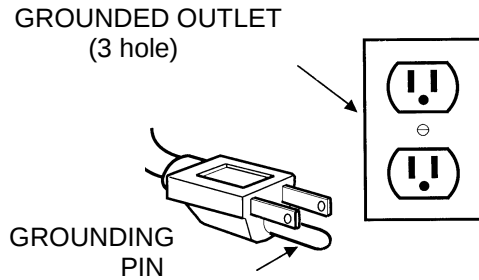

Fig. 3
5. Plug machine's power cord into grounded wall outlet. (Figure 3).